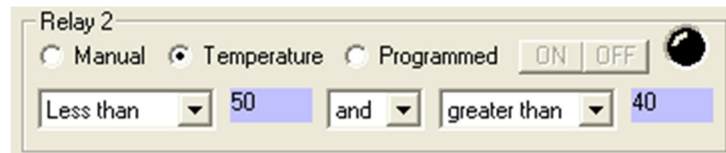

Fig. 10: Relay settings for temperature control
4. Under "Relay 2", configure the boxes so they read "Less than.....50.....and.....greater than.....40", as shown in Fig. 10. This will turn Relay 2 (and hence the buzzer) on when the temperature is between 40°C and 50°C.
Fig. 10 shows the relay configuration for the temperature-controlled mode.